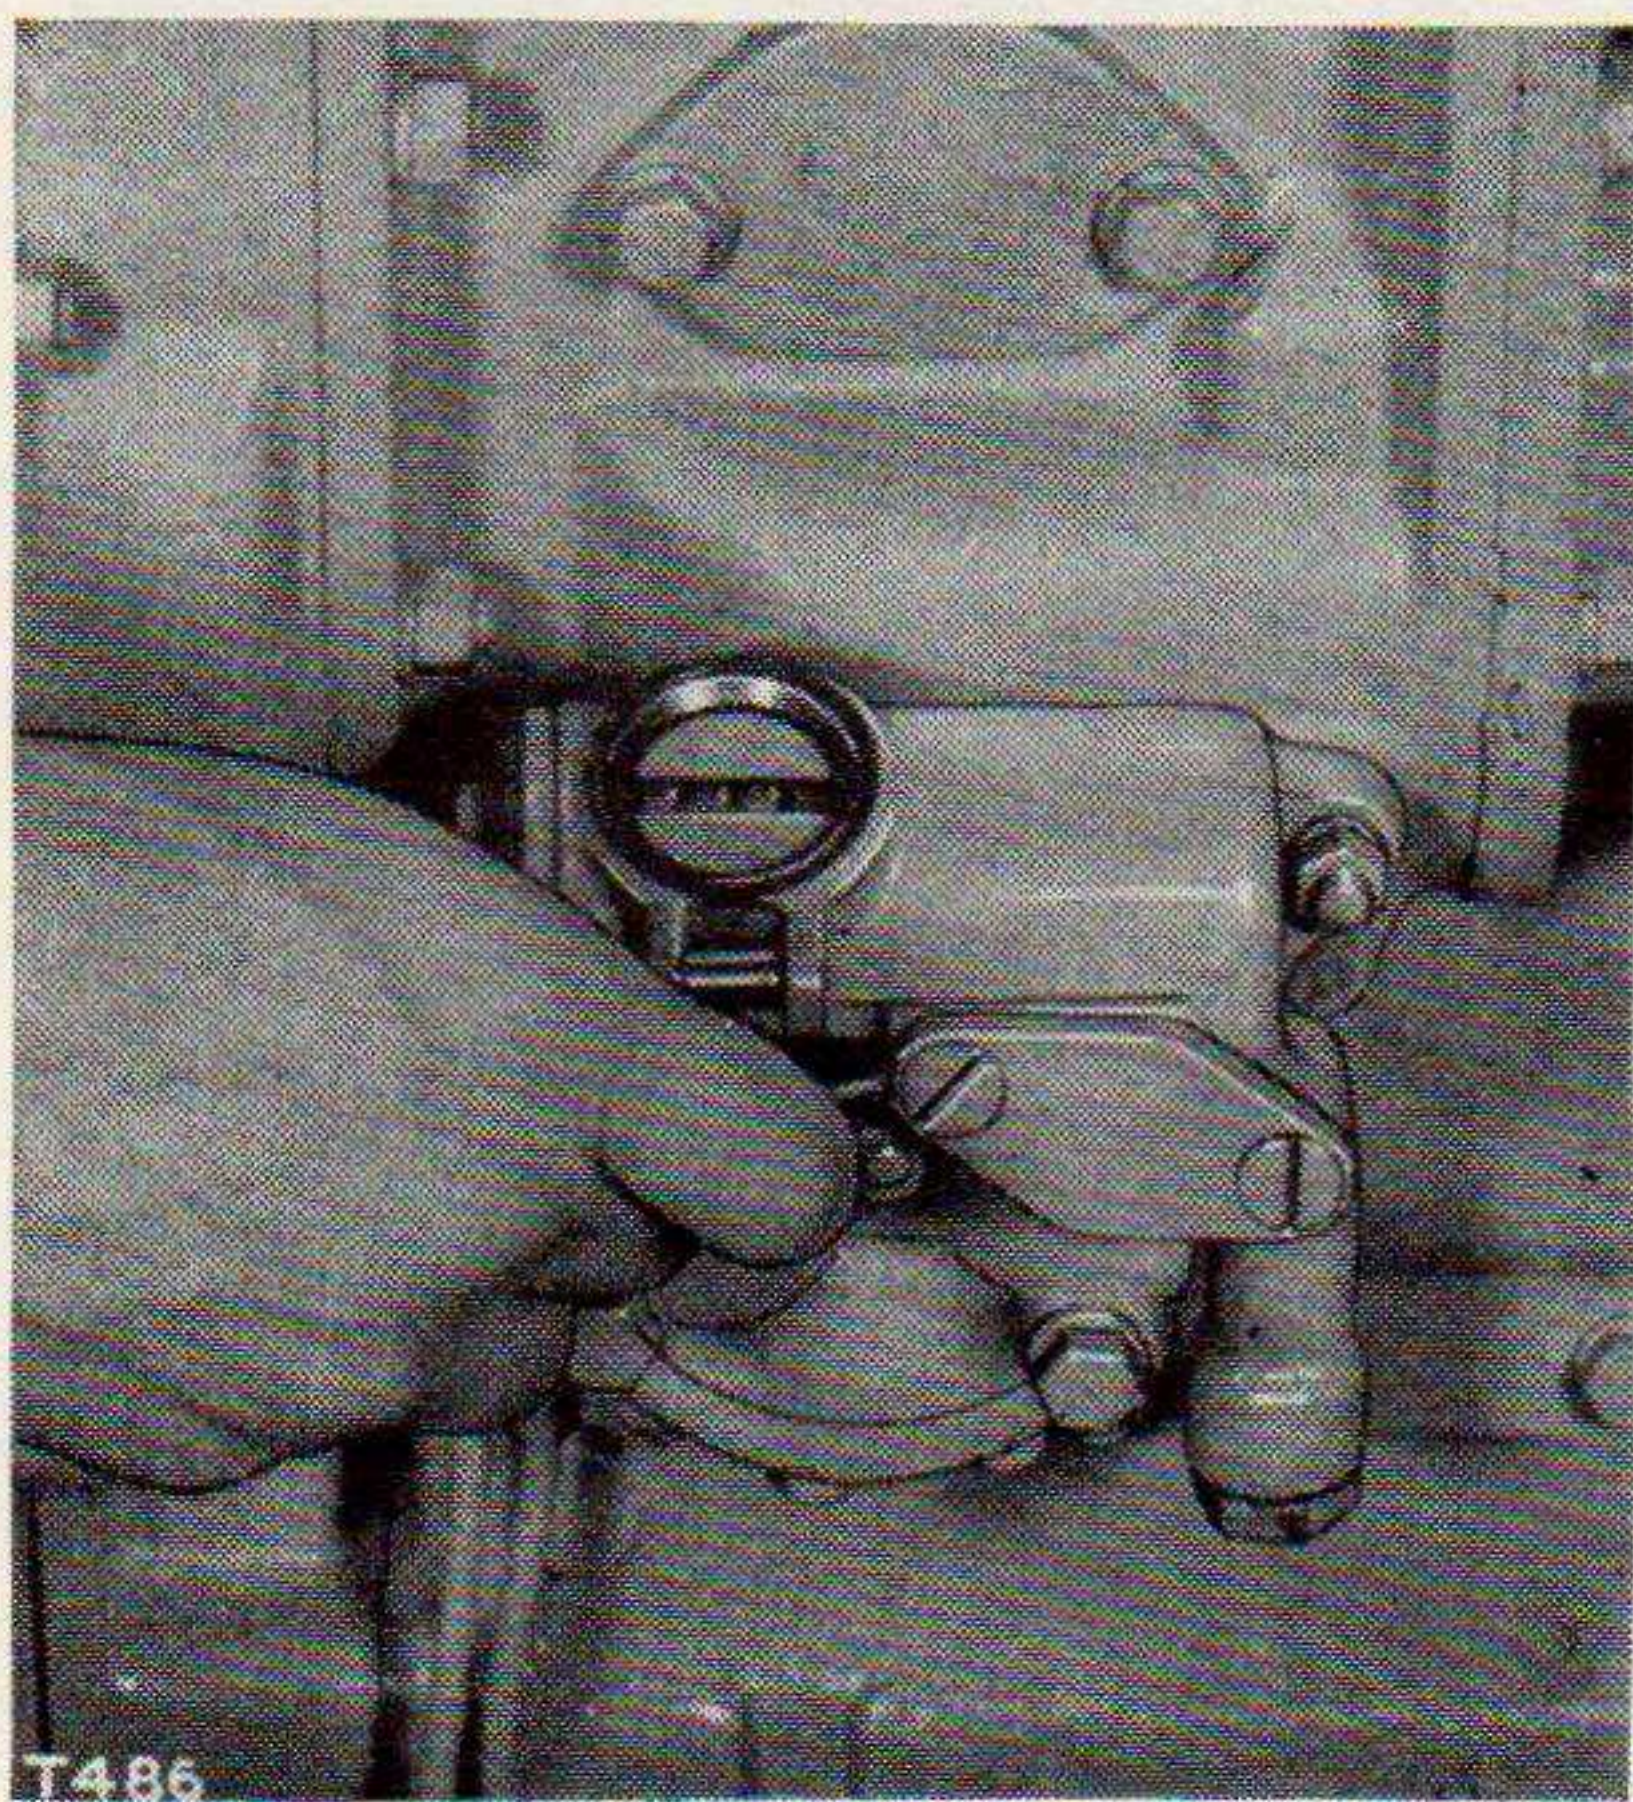

Figure 16. Hour meter.
*f.* HOUR METER. (See fig. 16.) The "Hour Meter" does not keep pace with the clock but when the crankshaft turns as many revolutions as are made in an hour at normal operating speed, the dial advances one number.